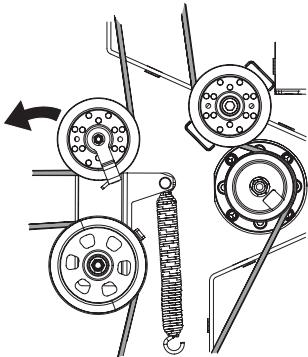

Figure 47
- Pull the right side of the PTO belt rearward and place the narrow "V" side of the PTO belt into the PTO pulley (Figure 47).